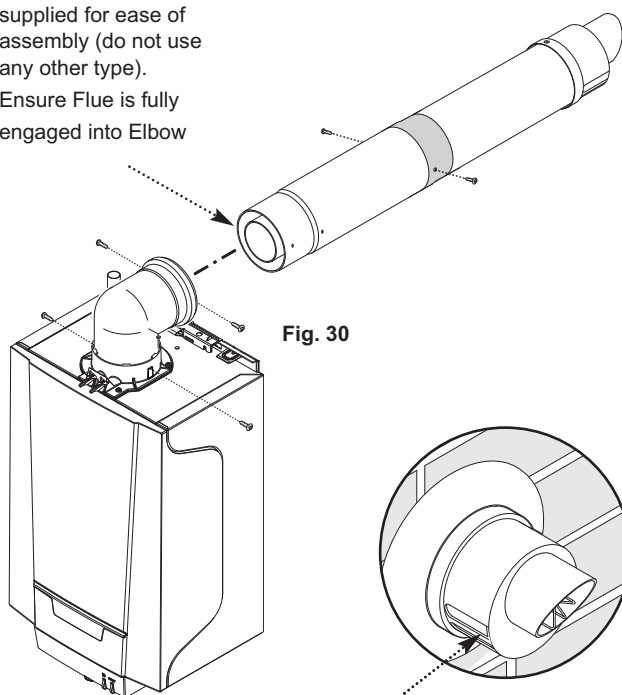

Fig. 30
13. Draw the flue back through the wall and engage it in the elbow. It may be necessary to lubricate to ease assembly of the elbow and flue (Fig. 30).
14. Ensure that the terminal is positioned with the slots to the bottom (Fig. 31). Secure the flue to the elbow with the screws supplied (Fig. 30).